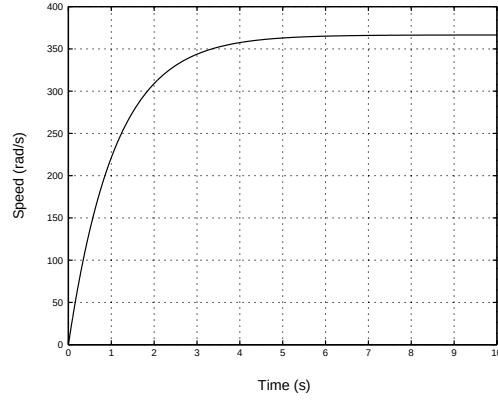

Figure 8: Time response of system for step input of $u(t) = 95 \text{ ft.lb.}$
- (d) The time response of the system for a step input of $u(t) = 95 \text{ ft.lb}$ is shown in Figure 8. The time constant is 1.077 s and the settling time is $4\tau = 4.308 \text{ s}$.